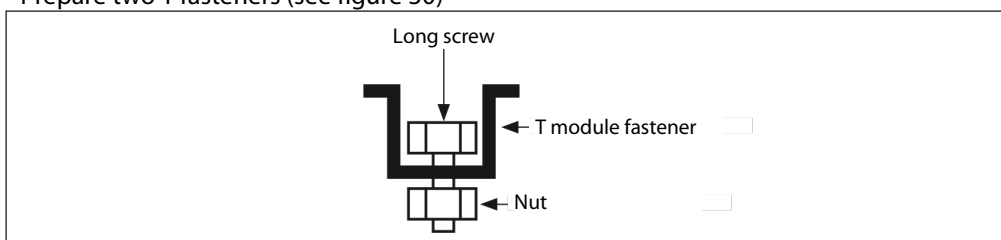

Figure 30
- Prepare two T fasteners (see figure 30)